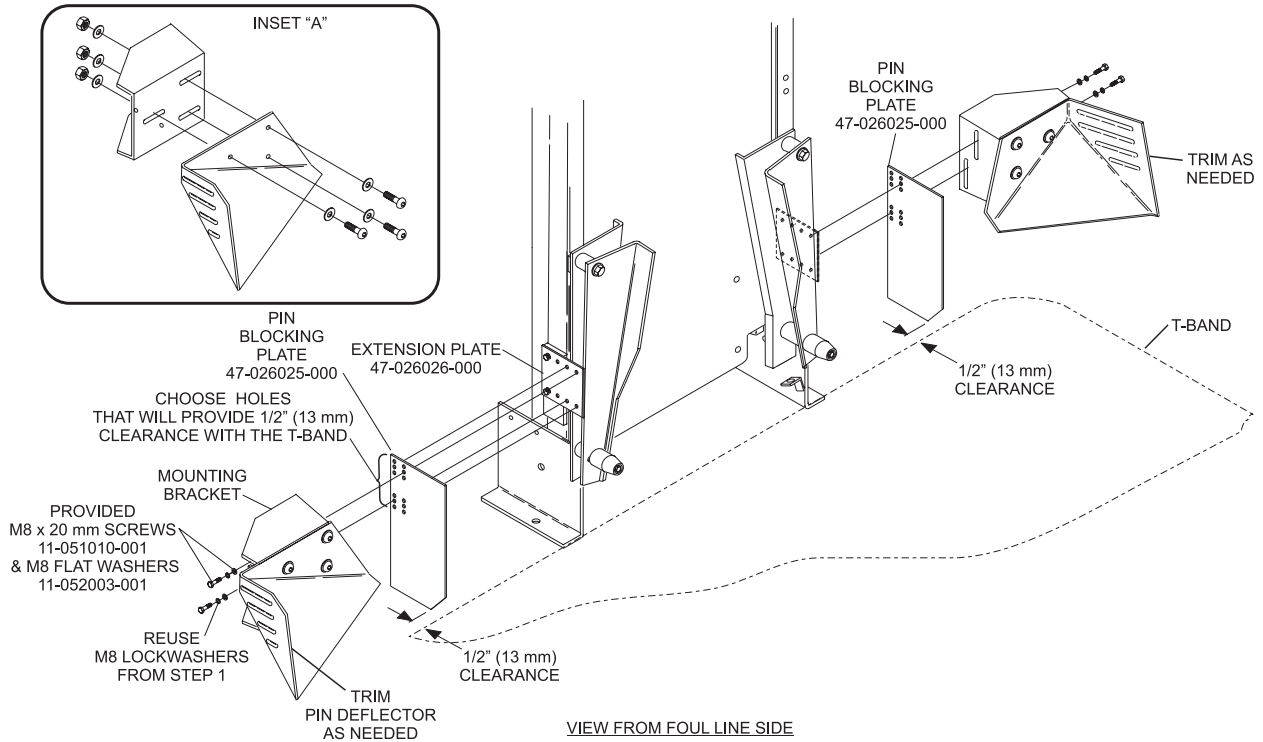

Figure 6
- Fit the pin blocking plate to the extension brackets to determine which set of holes will be used for mounting. Choose a set of holes that will provide 1/2" (13 mm) of clearance with the T-band. Refer to *Figure 6*.